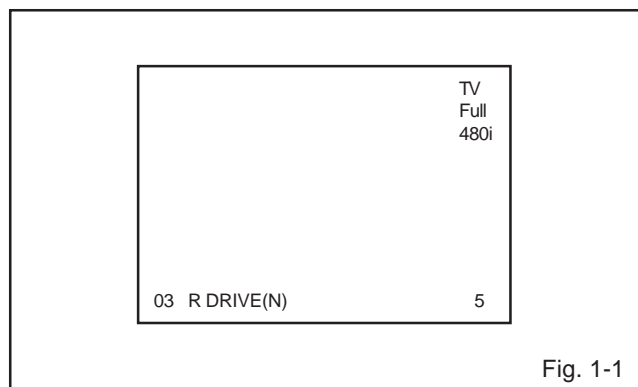

Fig. 1-1
2. Press the VOL. DOWN button on the set and the channel button (**9**) on the remote control for more than 2 seconds to display adjustment mode on the screen as shown in **Fig. 1-1**.
4. Activate the adjustment mode display of **Fig. 1-1** and press the channel button (**03**) on the remote control to select "R DRIVE(N)".
3. Activate the adjustment mode display of **Fig. 1-1** and press the channel button **(32)** on the remote control to select "BRIGHTNESS CENT".
9. Activate the adjustment mode display of **Fig. 1-1** and press the channel button **(32)** on the remote control to select "BRIGHTNESS CENT".
13. Press the INPUT SELECT button on the remote control to set to the AV(S) mode. Then perform the above adjustments 8~11.
17. Activate the adjustment mode display of **Fig. 1-1** and press the channel button **(32)** on the remote control to select "BRIGHTNESS CENT".